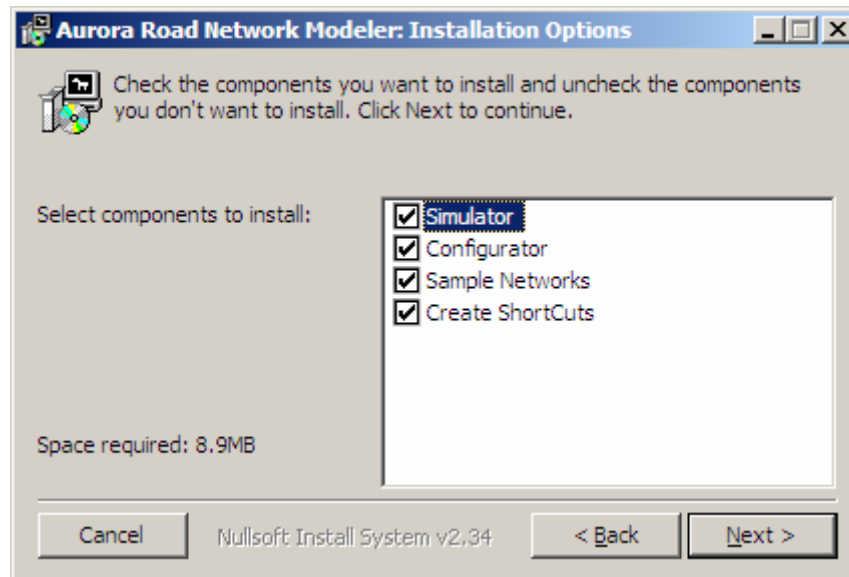

Figure 3-2: Installation options.
4. Choose which components to install. We suggest you install all components for the software to function properly (Figure 3-2).